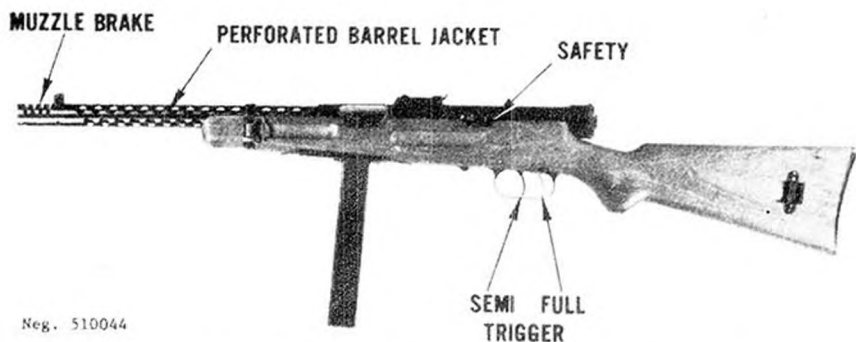

Figure 45. Italian Beretta M38A submachinegun.
c. The original Beretta M38 and M38A (fig 45) had perforated barrel jackets with built-in compensators; however, the original 38 had a single-baffle muzzle brake and a bayonet lug, and the 38A had a four-slot muzzle brake and no bayonet lug. M38A's were last produced in 1947 for the Argentine Government. The
f. The Beretta 38 series submachineguns are selective-fire weapons; the two triggers govern the type of fire. The guns are blowback-operated and fed from 10-, 20-, or 40-round box magazines. Prime recognition points are the double triggers and the slots cut across the muzzle end of the barrel (fig 45, 46, and 47). All the Beretta M38 series weapons fire the 9x19-mm cartridge (sec V).
b. Insert the loaded magazine into the magazine guide until the magazine catch snaps into place. Push the safety catch to the left or, for a Model 5, depress the grip safety bar (fig 47). On the earlier M38, M38A, M38/42, and M38/44, push forward the safety (on the left side of the receiver) (fig 45). Pull the operating handle fully rearward to cock the weapon, then return it forward. CAUTION: The gun is now ready to fire.
c. If the weapon is not to be fired immediately: On the M38, M38A, M38/42, and M38/44, move the safety (fig 45) rearward; on the M38/49 or M4, push the safety (fig 47) to the right; or on the M5, release the grip safety bar. To fire, move the safety back to fire position (or, on the M5 squeeze the grip safety bar), aim, and press the trigger. If the front trigger (fig 45) is pressed, only one shot will be fired. This trigger must be released and repressed to fire successive shots. If the rear trigger (fig 45) is pressed, the weapon will continue to fire until the magazine is empty. When the last round is fired, the bolt will close on an empty chamber. Press the magazine catch (fig 47) and pull the magazine out of the gun.